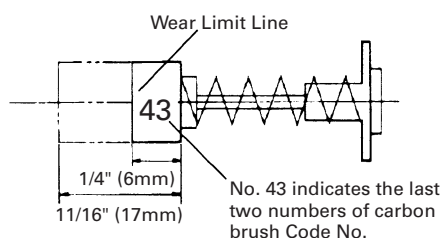
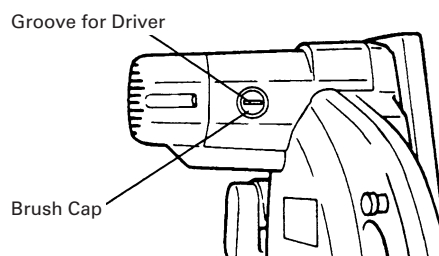

Fig. 44
Fig. 45
3. Inspecting the carbon brushes (Fig. 44 and Fig. 45)
Therefore, inspect the carbon brushes periodically and replace them when they have become worn to the wear limit line as shown in Fig. 44.
The carbon brushes can easily be removed after removal of the brush caps (see Fig. 45) with a slotted (minus) screwdriver.